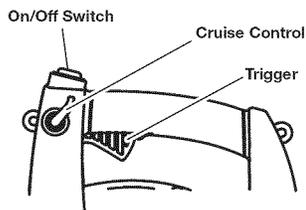

Fig. 11
**NOTE:** The unit should be started in idle. Do not squeeze the trigger until step 7 (Fig. 11).
7. Squeeze and hold the trigger, or press down the cruise control (Fig. 11), and allow the engine to warm up for 30 to 60 seconds.
2. Press and hold the On/Off switch in the OFF (O) position until the unit comes to a complete stop (Fig. 11).
**NOTE:** The unit should be started in idle. Do not squeeze the trigger until step 9 (Fig. 11).
9. Squeeze and hold the trigger, or press down the cruise control (Fig. 11), and allow the engine to warm up for 30 to 60 seconds.